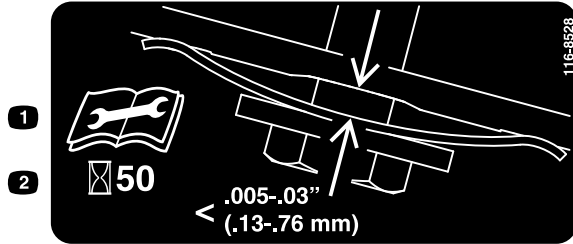

Figure 29
- Hold a feeler gauge set between 0.13 and 0.76 mm (0.005 and 0.03 inches) against the wall and slide it down behind the belt tension spring; refer to Figure 29.